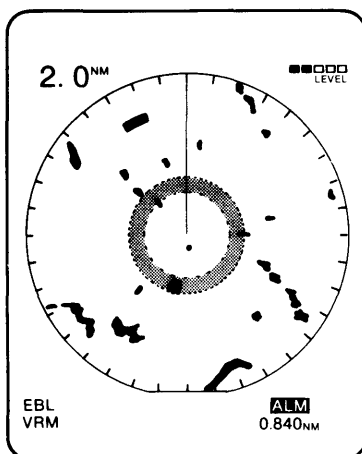

Fig. 1
- 3) Push [ALARM], then rotate the multi-function selector to set the inside edge of the alarm zone. (Fig. 1)